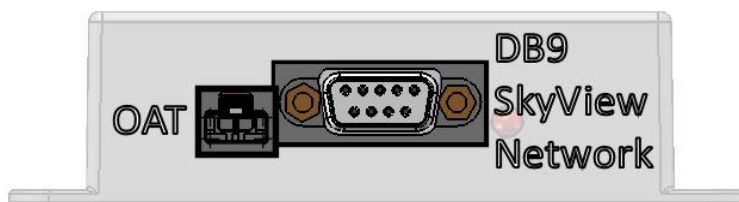

Figure 145: SV-ADAHRS-200/201 Connectors
A SkyView ADAHRS module (SV-ADAHRS-200/201) has two (2) connectors as illustrated in Figure 145:
- One (1) D9M SkyView network connector.
- One (1) 2-pin OAT sensor connector (only compatible with the SV-OAT-340).